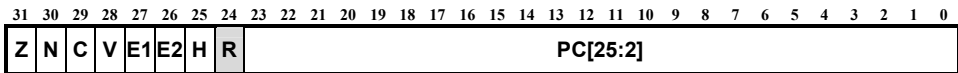

Figure 11 Status Register
The status register (STATUS), shown in Figure 11, contains the condition codes: zero (Z), negative (N), carry (C) and overflow (V); the interrupt mask bits (E[2:1]); the halt bit (H); and the program counter (PC[25:2]).